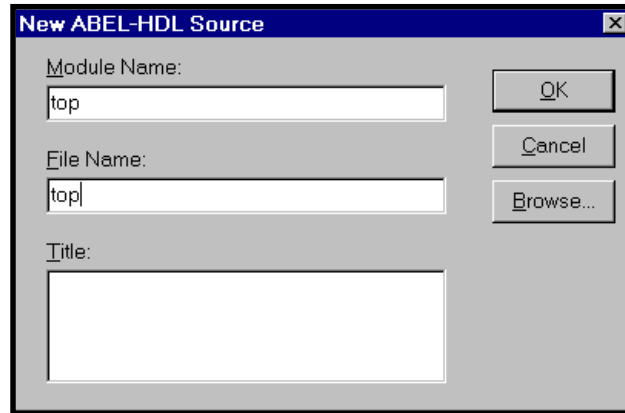

Figure 3-6. New ABEL-HDL Source Dialog Box
- In the New Source dialog box, choose ABEL-HDL Module and click **OK**. The Text Editor window appears together with the New ABEL-HDL Source dialog box (Figure 3-6).